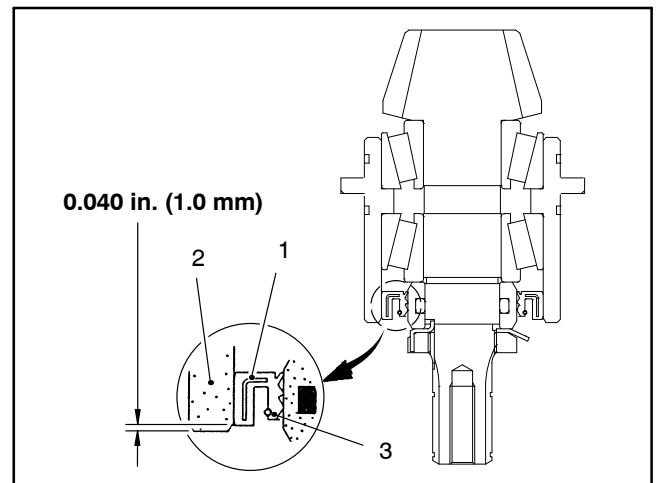

Figure 34
3. Coat a new oil seal with grease and install as shown (Fig. 34). The seal should be installed with the garter spring towards the hydraulic motor location.